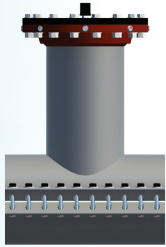

Figure 1
1) Inspect the valve body to ensure no damage has occurred during shipment or storage (see Figure 1).